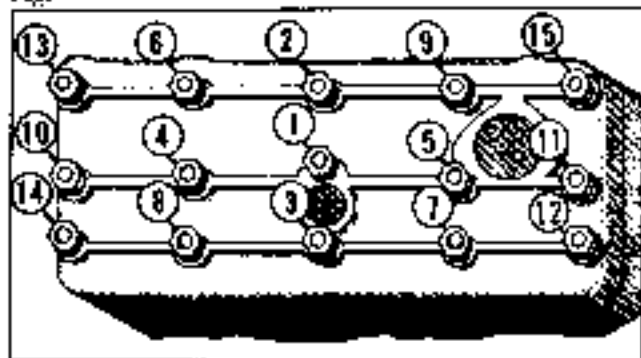

Fig. 1-127. Cylinder head torque sequence
h. Tighten all cylinder head stud nuts evenly and gradually to 33 to 75 foot-pounds, in the sequence shown in Fig. 1-127.